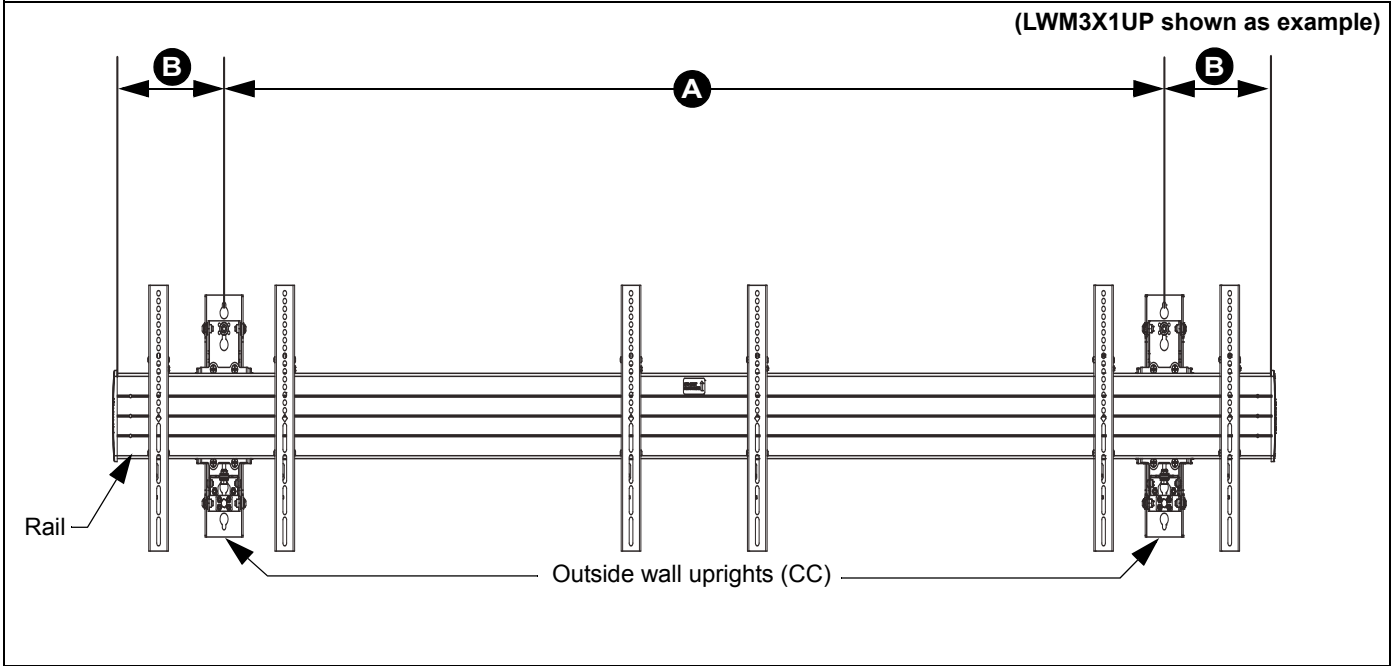
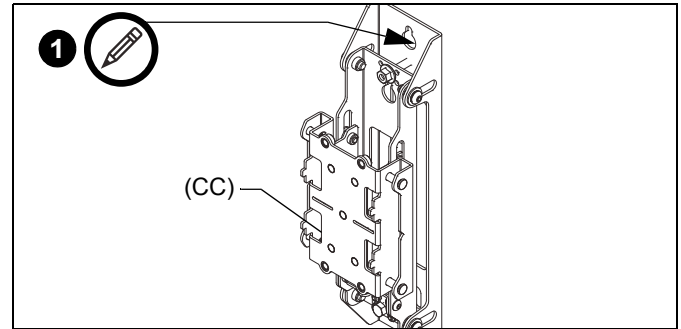

Figure 1
Figure 7
**IMPORTANT !** : Reference **Wall Placement Information** section (See Figure 1) and Table 1.
1. Use the outside wall upright (CC) as a model to mark upper pilot hole placement for 2 outside wall uprights following wall placement information in Figure 1 and Table 1. (See Figure 7)